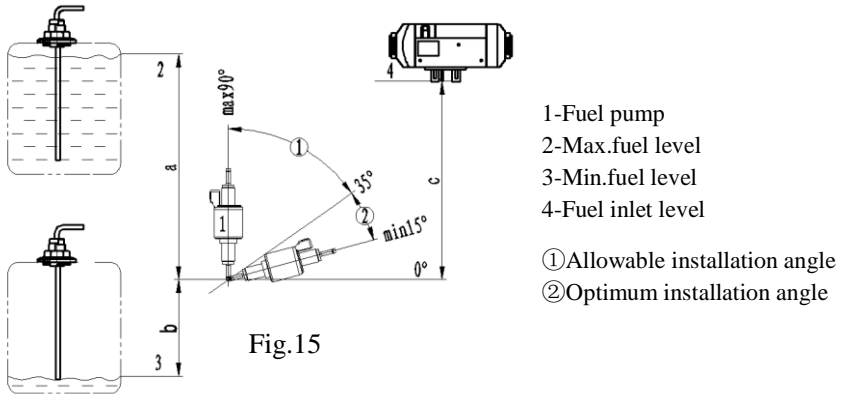

Fig.15
4.4.1 The fuel pump shall be fixed in automobile with a fuel pump clamp with protective rubber cover. The outlet of the fuel pump shall tilt upwards. The tilt angle can be selected from the range of  $15^{\circ} \sim 35^{\circ}$  (as shown in Fig. 15). When conditions permit, the fuel pipe between the fuel pump and the heater shall go up gradually.
4.4.3 Difference in elevation between the level of fuel and the fuel pump as well as the difference in elevation between the fuel pump and the fuel inlet of the heater can produce pressure (or suction) in the fuel pipeline (See Fig. 15). So, these dimensions shall conform to the requirements as follows:  $a \leq 3\text{m}$   $b \leq 0.5\text{m}$  (Avoid of negative pressure may be produced in sealed fuel tank. In such case,  $b \leq 0.15\text{m}$ )  $c \leq 2\text{m}$ .